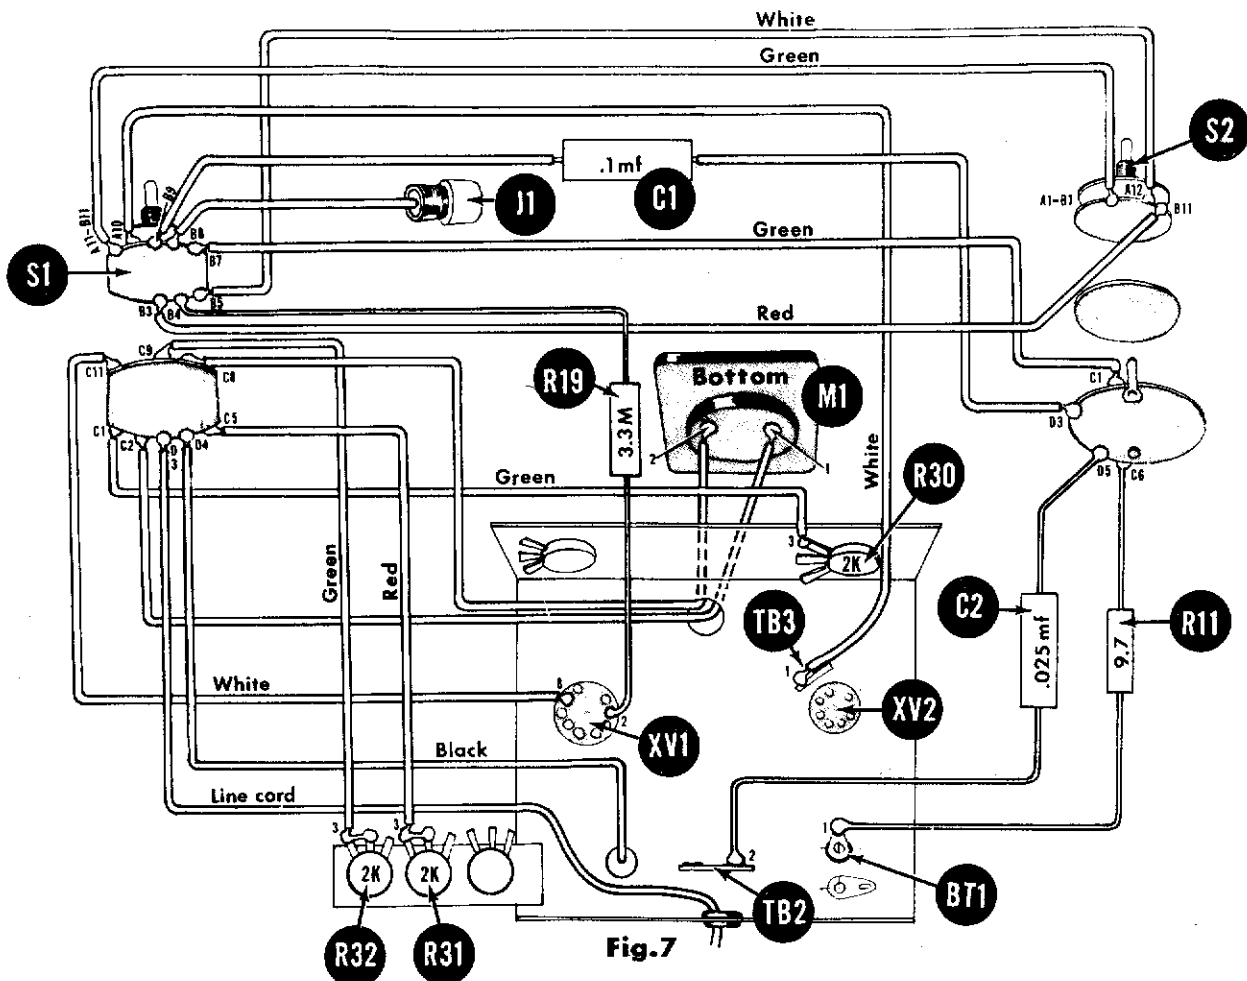

Fig. 7
- () Fig. 7. Connect the 3.3MΩ resistor R19 from XV1-2 to S1-B4 (S).
- () Fig. 7. Connect the white wire from XV1-8 to S1-C11 (S).
- () Fig. 7. Connect the white wire from TB3-1 to S1-A10 (S).
- () Fig. 7. Connect the red wire from R31-3 to S1-C5 (S).
- () Fig. 7. Connect the green wire from R32-3 to S1-C9 (S).
- () Fig. 7. Connect the free lead of the line cord to S1-D3 (S).
- () Fig. 7. Connect the black lead of power transformer T1 to S1-D4 (S).
- () Fig. 7. Connect the green wire from R30-3 to S1-C1 (S).
- () Fig. 7. Connect a 5 in. length of red hook-up wire from M1-1 (S) to S1-C2 (S). Pass lead thru chassis hole.
- () Fig. 7. Likewise, connect a 5 in. length of green hook-up wire from M1-2 (S) to S1-C8 (S).
- () Fig. 7. Connect a length of hook-up wire from J1 (S) to S1-B8 (S). Pass wire thru jack and solder to metal ring in center of plastic.
- () Fig. 7. Mount the prewired range switch S2 to the panel. Switch is in correct position when lug F points to bottom of panel.
- () Fig. 7. Connect the green wire from S2-A1 - B1 to S1-A11 - B11 (S).
- () Fig. 7. Connect the white wire from S2-A12 to S1-B5 (S).
- () Fig. 7. Connect the red wire from S2-B11 to S1-B3 (S).
- () Fig. 7. Connect the green wire from S2-C1 to S1-B7 (S).
- () Fig. 7. Connect the .1mf capacitor C1 from S2-D3 to S1-B9 (S).
- () Fig. 7. Connect the .025mf capacitor C2 from S2-D5 to TB2-2 (S).
- () Fig. 7. Connect the 9.7Ω resistor R11 from S2-C6 to BT1-1 (S).